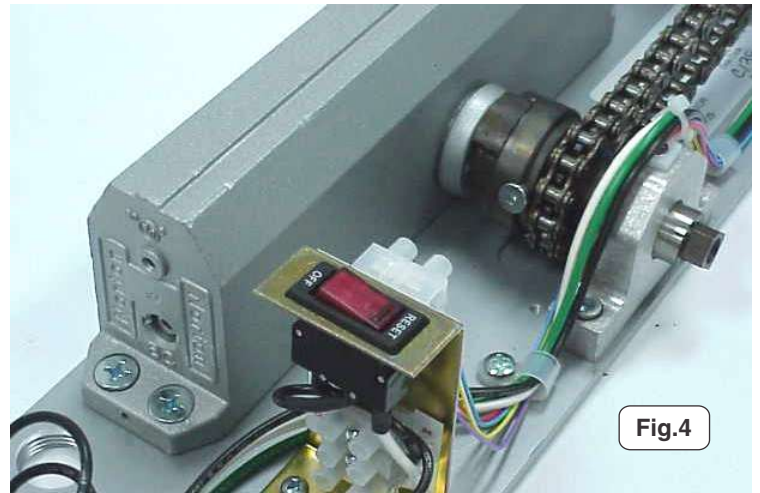

Fig.4
5. Replace and tighten closer body screws removed in step 2. See fig. 4.